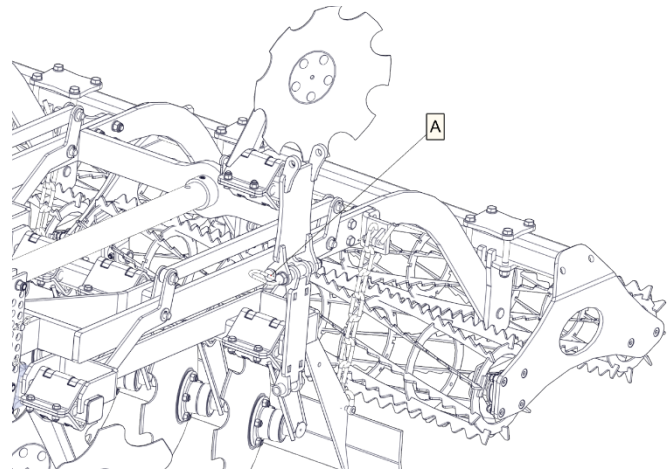

Fig. 14. Outermost disc folded
- insert the bolt [A] as in Fig. 14 above, and secure it with the cotter pin